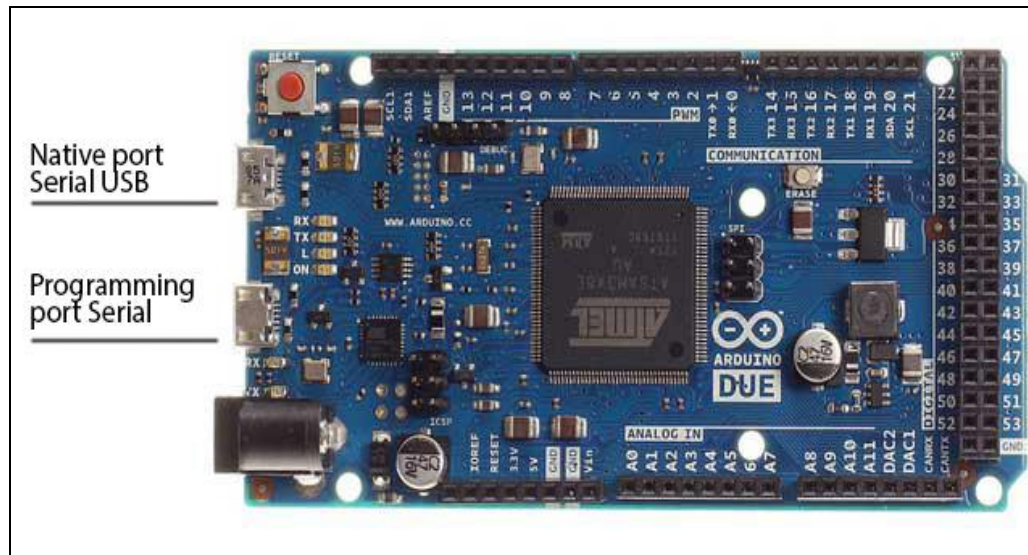

Figure 4 Arduino Due
3. Connect the USB to Micro-B USB cable between the PC and the Due on the Programming Port as shown in Figure 4. Windows may give you a message about needing to load a driver. If so let this complete.